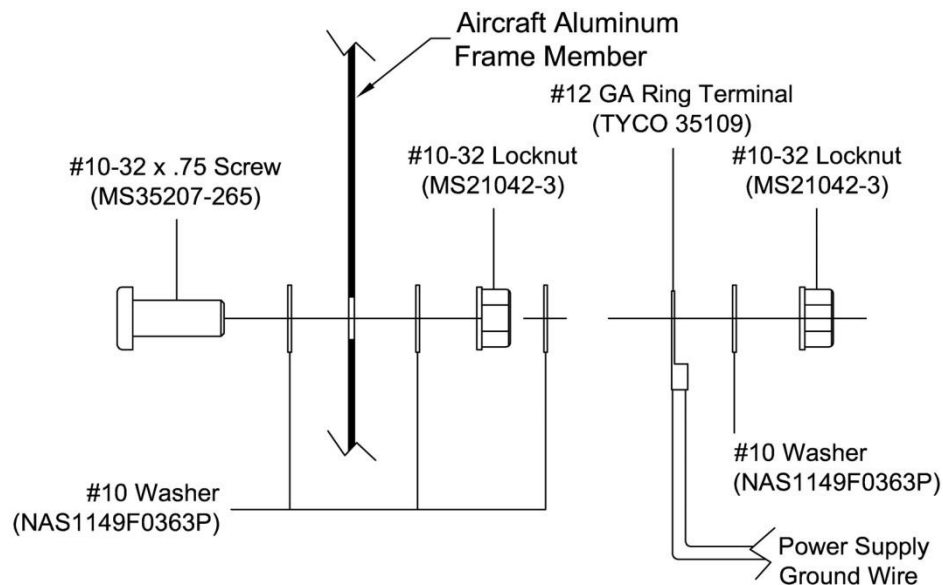

Figure 4: Ground Detail
- a. Refer to Figure 4 for Ground wire installation. All Bonding and Grounding will be In accordance with AC 43.13-1B, Chapter 11, Section 15.